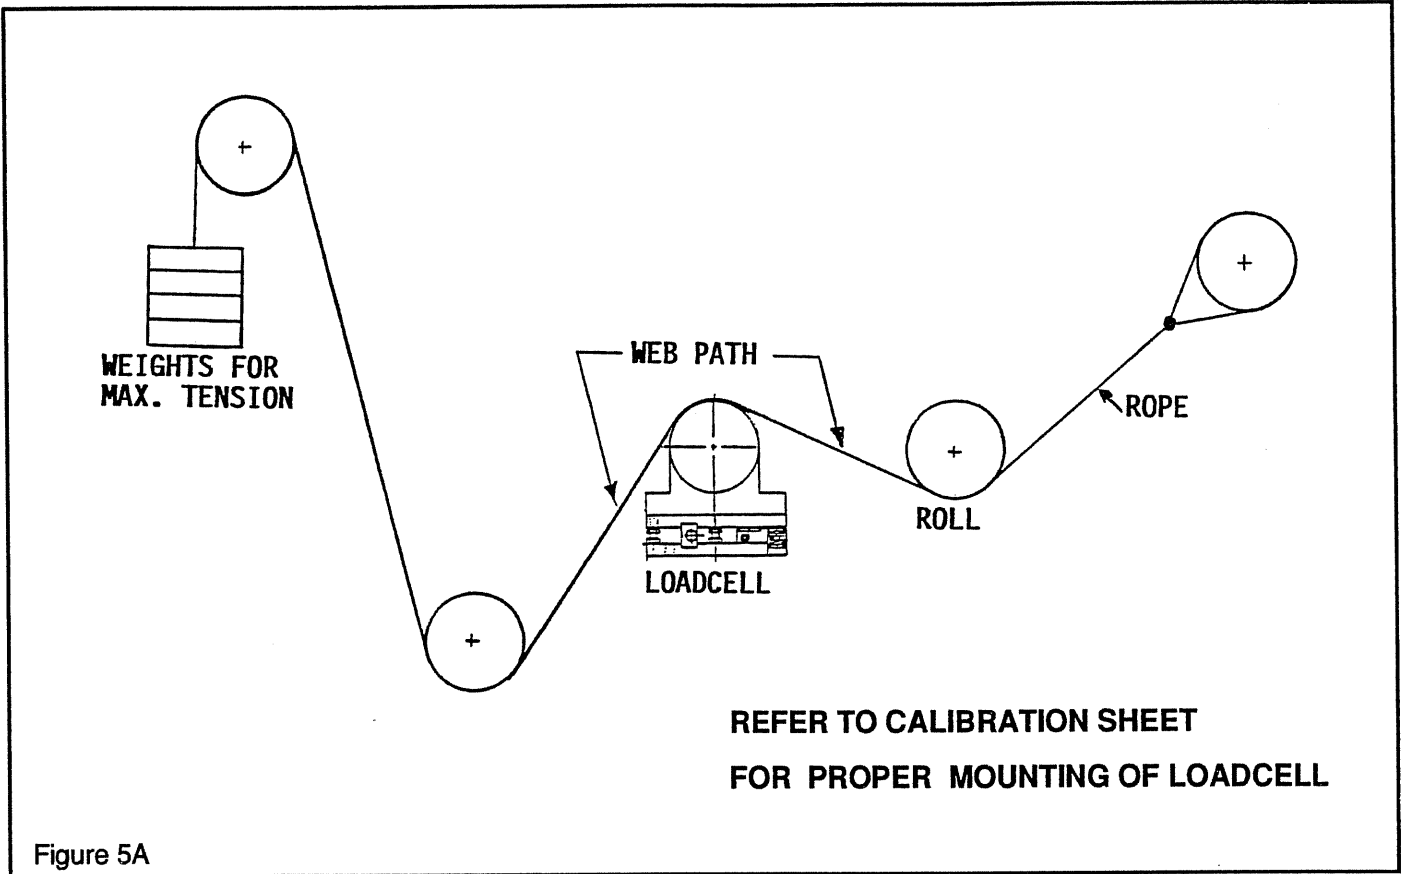

Figure 5A
2. With one end of the rope secured, hang a known weight, equally over each roll so that the total tension is equal to the maximum strip tension specified on the calibration sheet, at the other end. (See Figure 5A.)